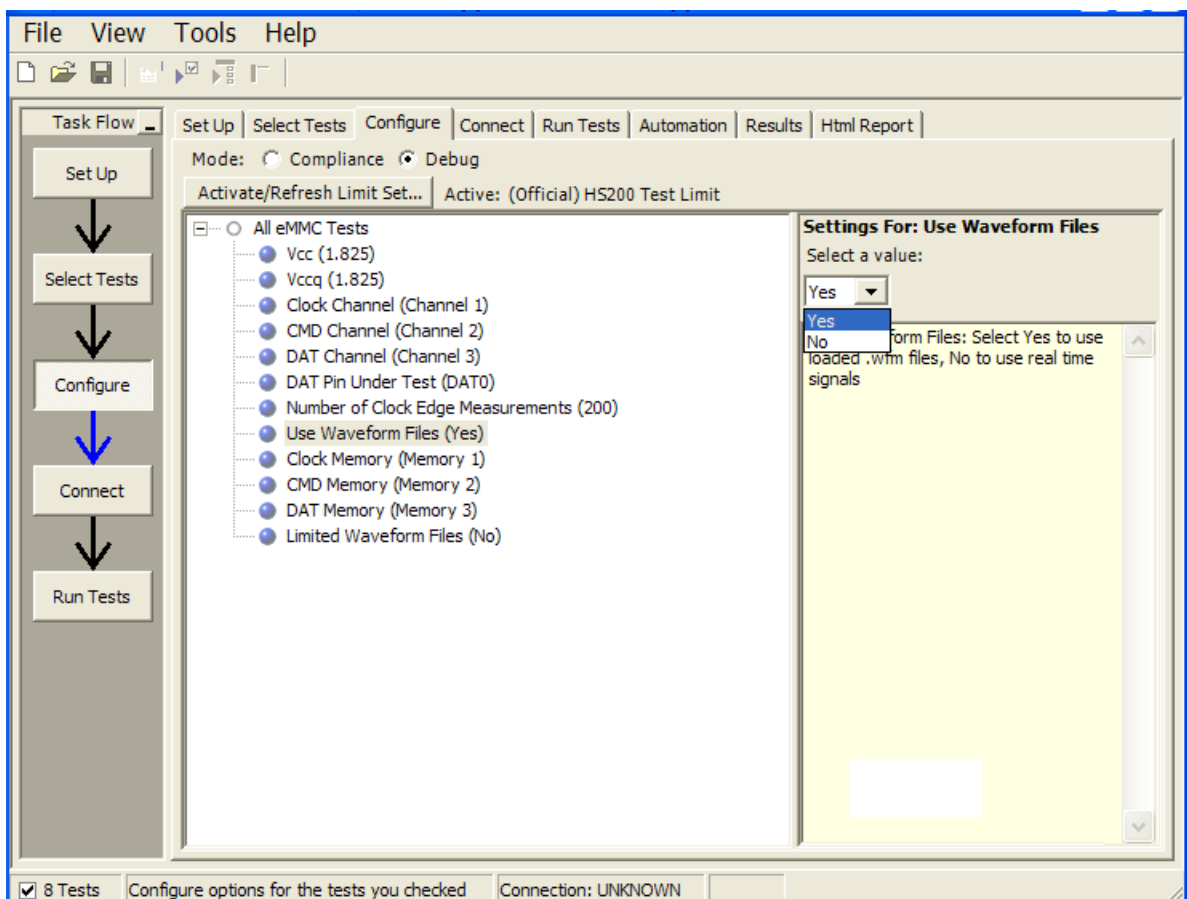

Figure 12 Debug Mode Settings
- 2 Change **Use Waveform Files** from **No** to **Yes** (see Figure 12). This will enable the measurements to use saved waveforms.